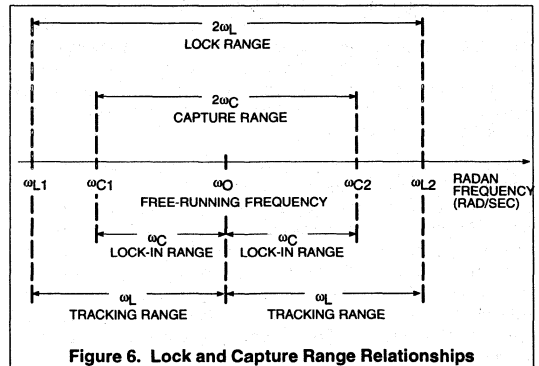

Figure 6. Lock and Capture Range Relationships
**Lock Range ( $2f_L$ ,  $2\omega_L$ )** — The range of frequencies over which the loop will remain in lock. Normally the lock range is centered at the free-running frequency, unless there is some nonlinearity in the system which limits the frequency deviation on one side of  $f_0'$ . The deviations from  $f_0'$  are referred to as the *Tracking Range* or *Hold-in Range*. (See Figure 6). The tracking range is therefore one-half of the lock range.